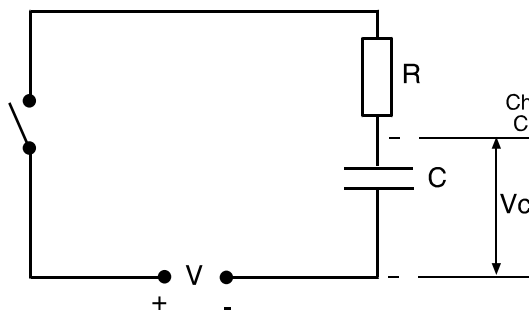

Figure 6
18. When the switch is closed on the circuit shown in figure 6 the rate of flow of current is determined not only by the amount of resistance but also by the opposition of any charge which is stored by the capacitor.